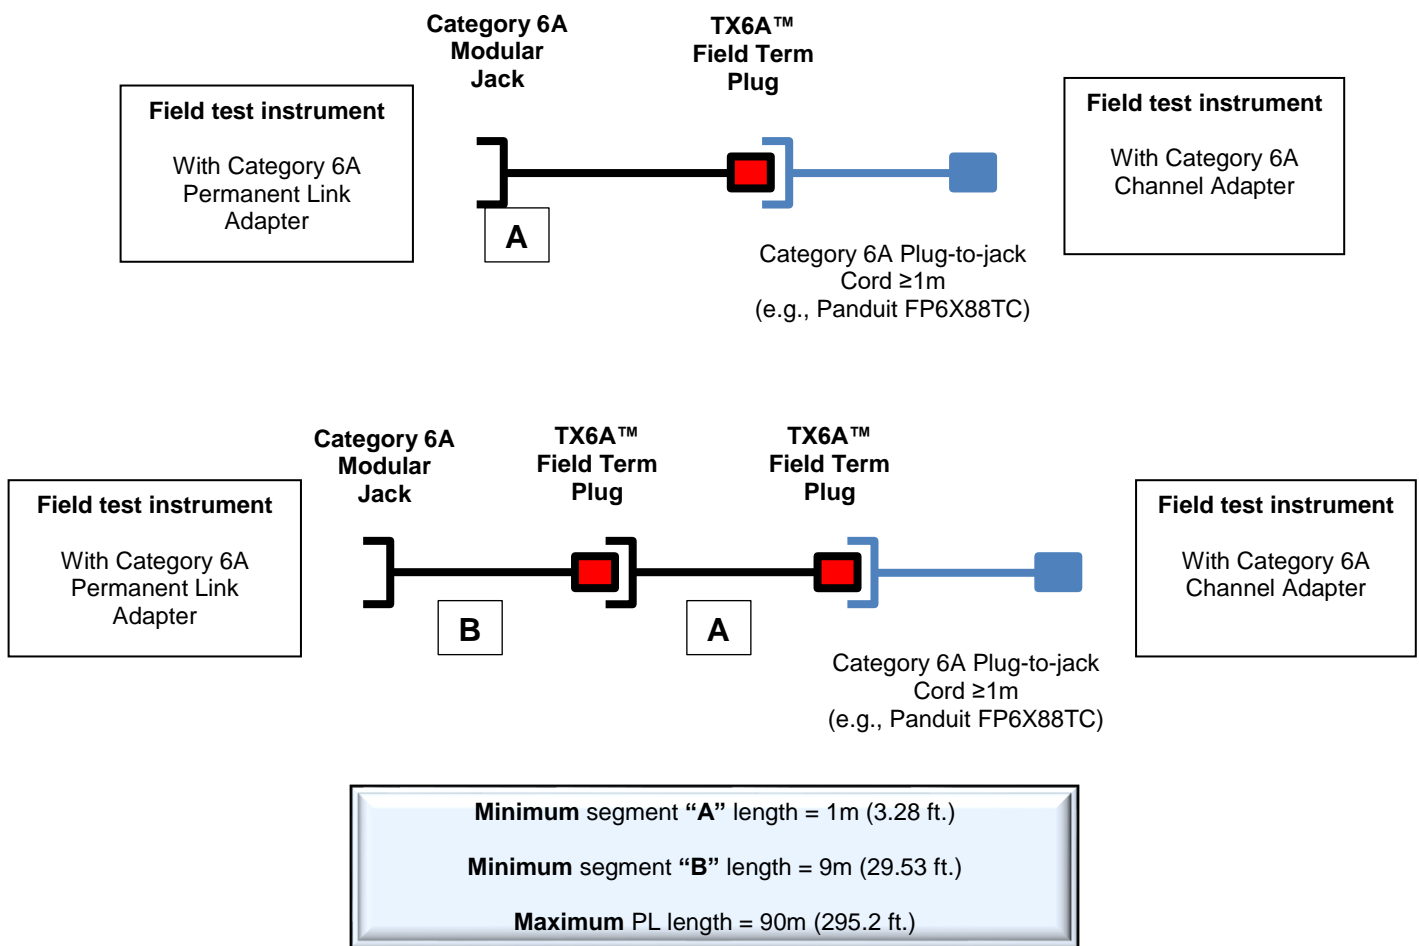

Figure 9. Schematic representations of permanent link testing via the Alternate Model.
System designers and users of data communications systems use the Alternate Method field terminable plug test configuration to verify the performance of the permanent link in a direct-connect designed infrastructure where the Standards Method is not possible. In the Alternate Method, the permanent link continues to have a maximum total horizontal cable length of 90m (295 ft.) and a maximum of two (2) field terminable plugs. The connection to the equipment at either end of a permanent link is not included in the Alternate Method test and therefore requires a $\geq 1\text{m}$ plug-to-jack cord to properly test the TX6A™ UTP Field Term Plug as part of the permanent link performance. Figure 9 shows schematic representations of this permanent link test configuration.